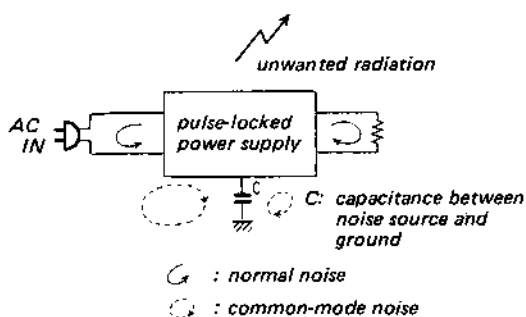

Fig. 4
- The filter consists of coil L601 with bifilar windings on a ferrite-ring core and three capacitors C601-C603. Noise which appears between the ac line and the ground (common-mode noise, See Fig. 4.) is suppressed, thereby reducing the amount of unwanted radiation (noticeable when this amplifier is connected to preamplifier, tuner, turntable, etc.) to insignificant levels.